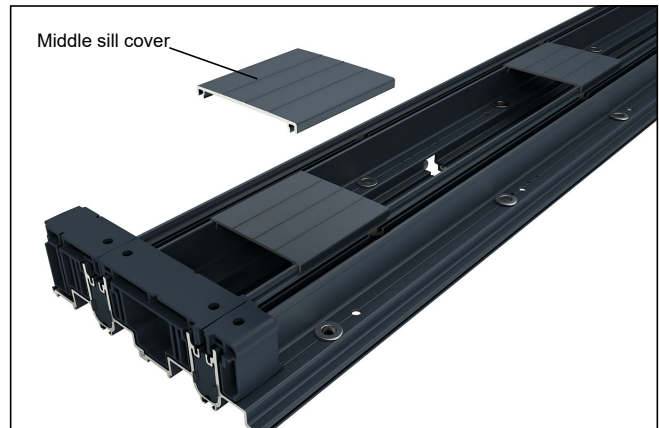

Figure 4
4. Temporarily assemble middle sill cover short sections to aid in sill installation (do not place over anchor or leveling holes). This will help stabilize the assembled sill while you move it into position. See figure 4.